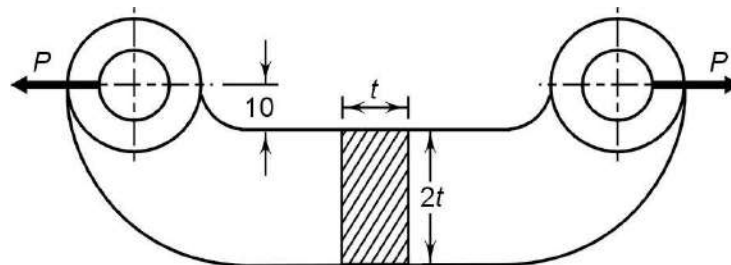

Fig.1
- (c) An offset link subjected to a force of 25 kN is shown in fig.1. It is made of grey cast iron FG300 ($S_{ut}=300 \text{ MPa}$) and FOS is 3. Determine the dimensions of cross-section of the link. **07**